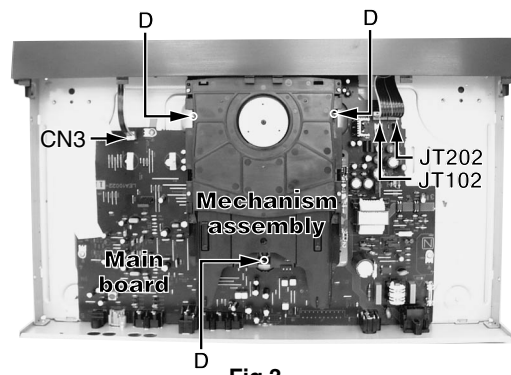

Fig.3
■ Removing the mechanism assembly (see Fig.3,4)